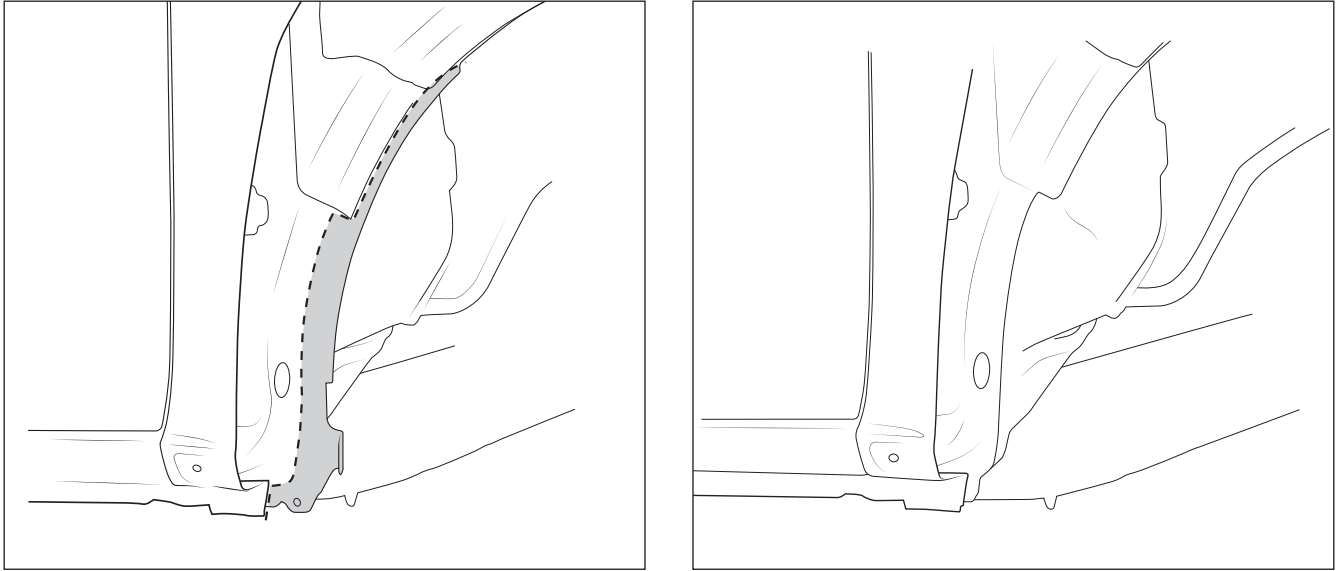

Figure 5 (Left) Before (Right) After
7. Cut the pinch seams at the rear of the wheel wells and remove the shaded material (fig. 5).